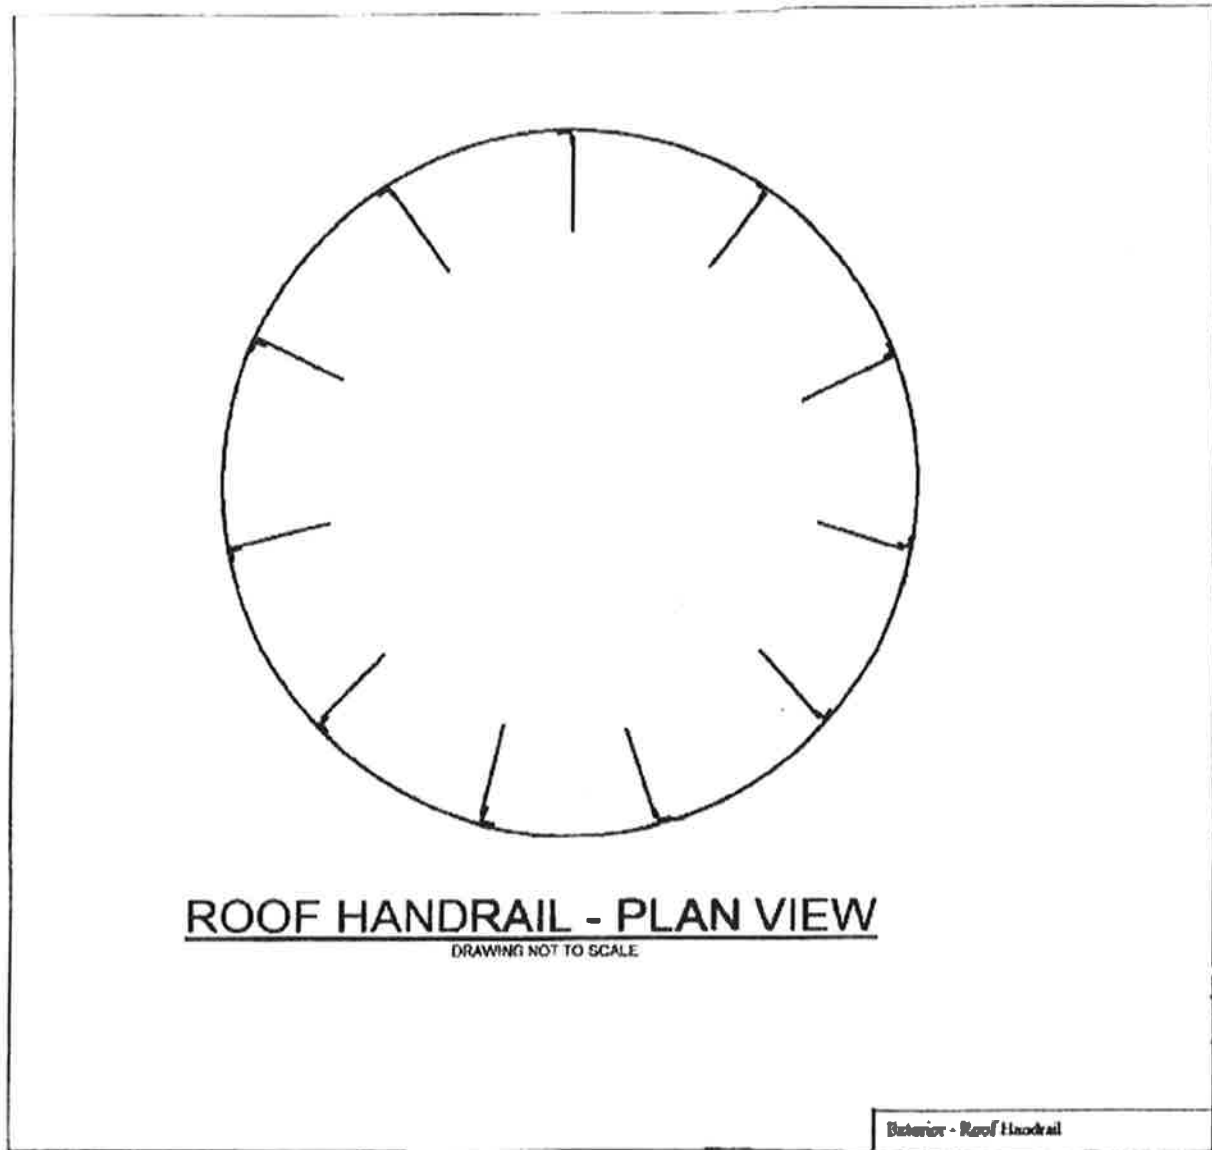

FIGURE 5-5
- B. Install a 42-inch-high railing, 20 feet in diameter and shall include a top rail, intermediate rail, and toe rail on the tank roof. (See Figure 5-5 and 5-6)